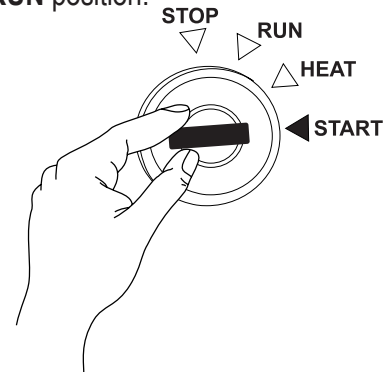

Figure 33. Starter Switch (START)
5. When the **Pre-Heat lamp** (Figure 31C) turns OFF, turn the **ignition key** clockwise to the **START** position (Figure 33) to start the engine. As soon as the engine starts, release the key. The key will automatically return to the **RUN** position.